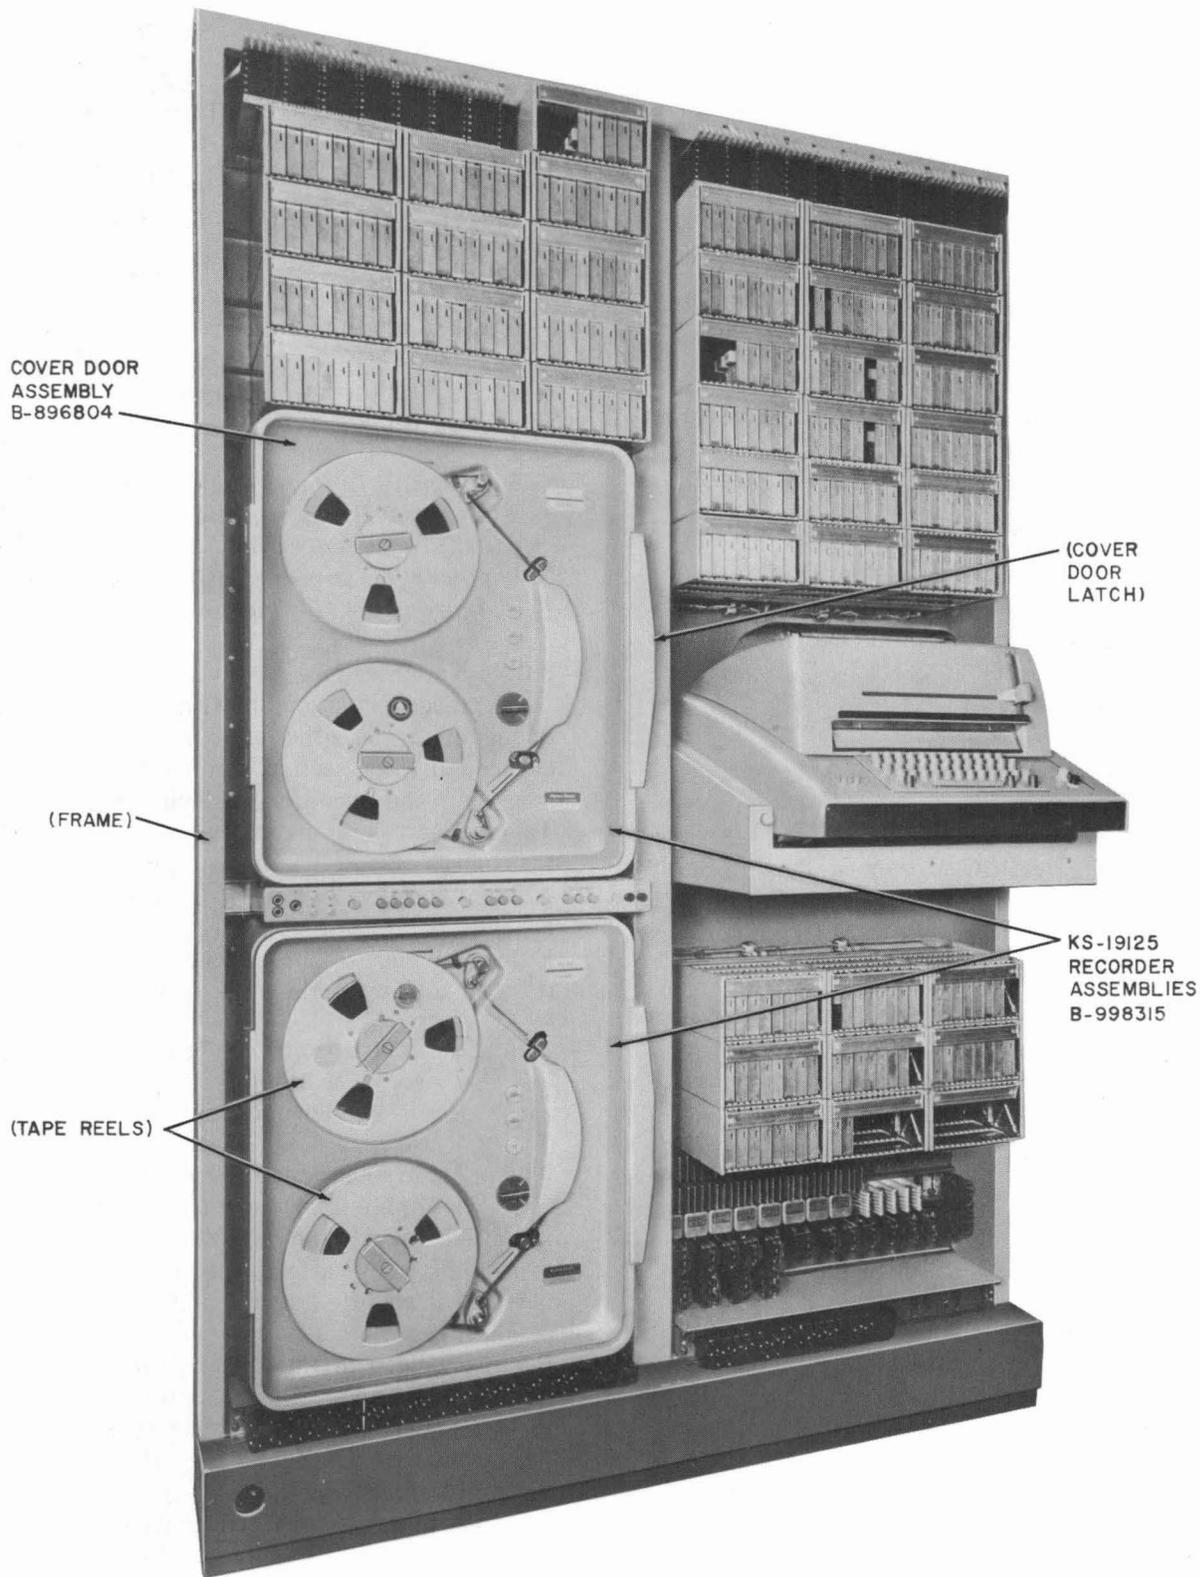
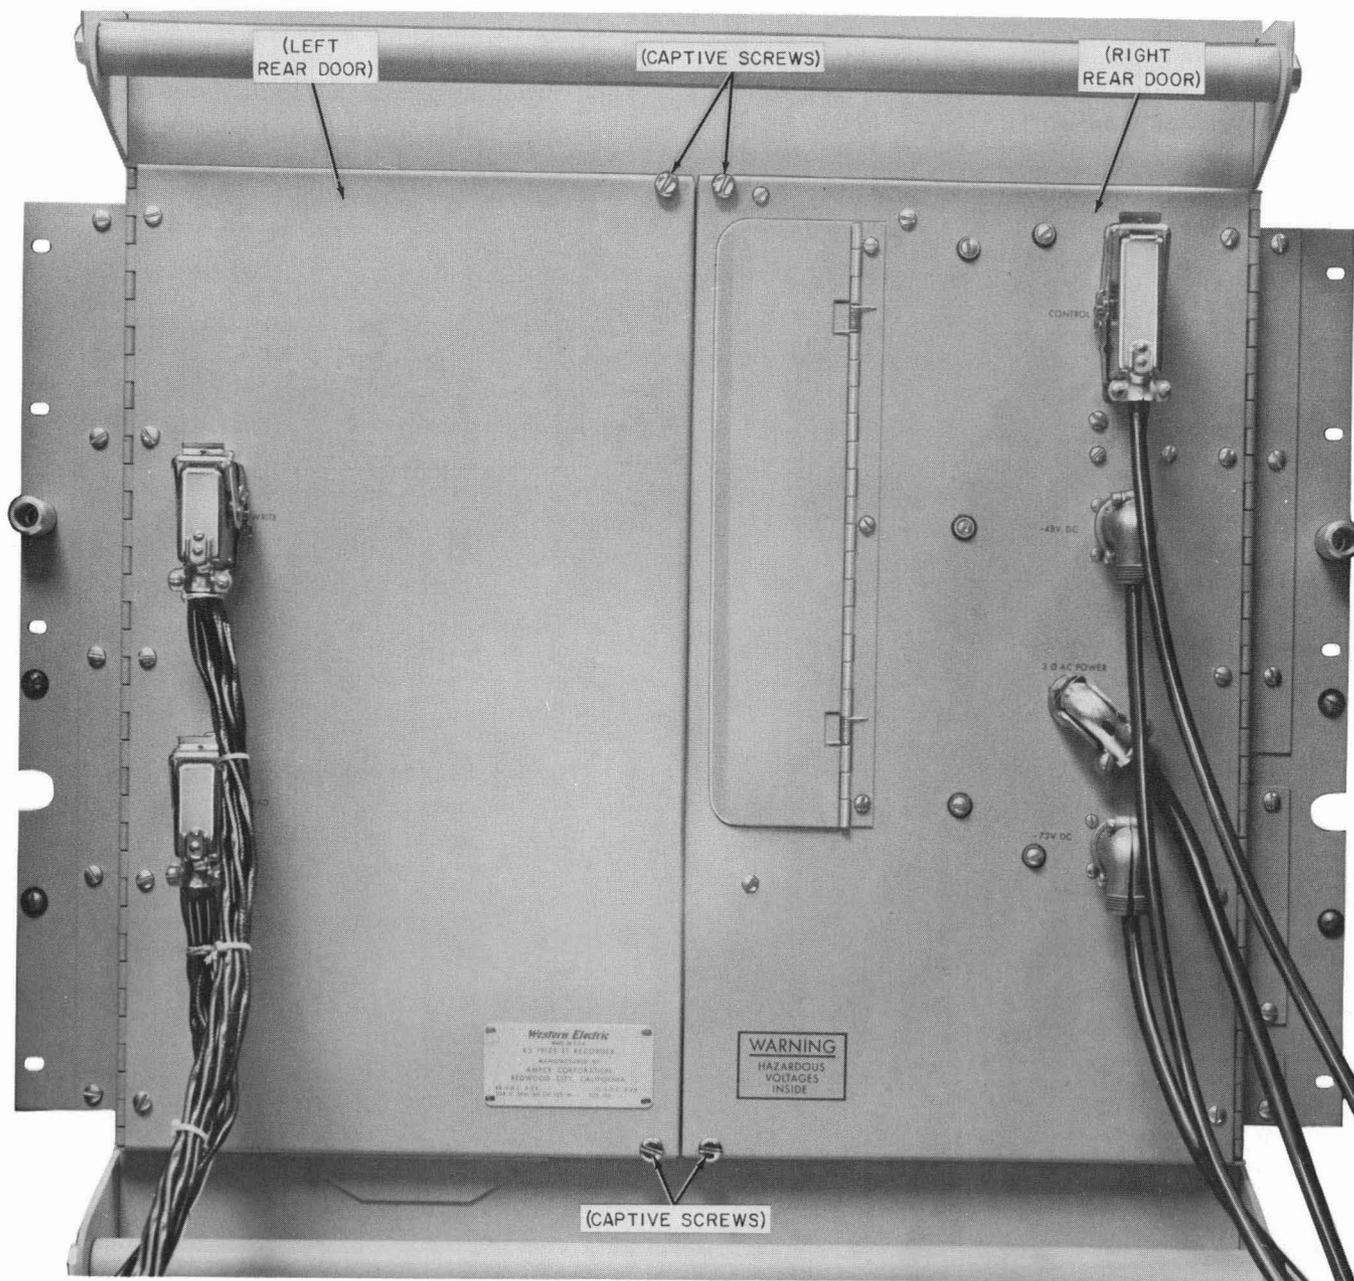

Fig. 1—KS-19125 L3 Recorder Assembly
Fig. 2—Recorder Assembly—Rear View with Doors Closed
**3.03** No procedure is given for removal of the recorder assembly (Fig. 1) from the AMA frame and associated equipment. All procedures covered in this section can be performed without removing the recorder assembly from the frame. To gain access to parts on the front of the tape transport, open the transparent cover door by pulling the latch outward. To gain access to parts on the rear of the tape transport, use the 4-inch E screwdriver to loosen the four captive screws (Fig. 2) and open the rear doors.
**3.06 Cover Door Assembly:** To replace cover door assembly (Fig. 1), proceed as follows.
remove hinge block shims as required. It is not necessary to disengage stops to adjust shims. Using the 5/64-inch Allen wrench, adjust latch strikes so that gasket makes sealing contact along the full periphery of the cover door when the latch is in the fully closed position as shown in Fig. 1.